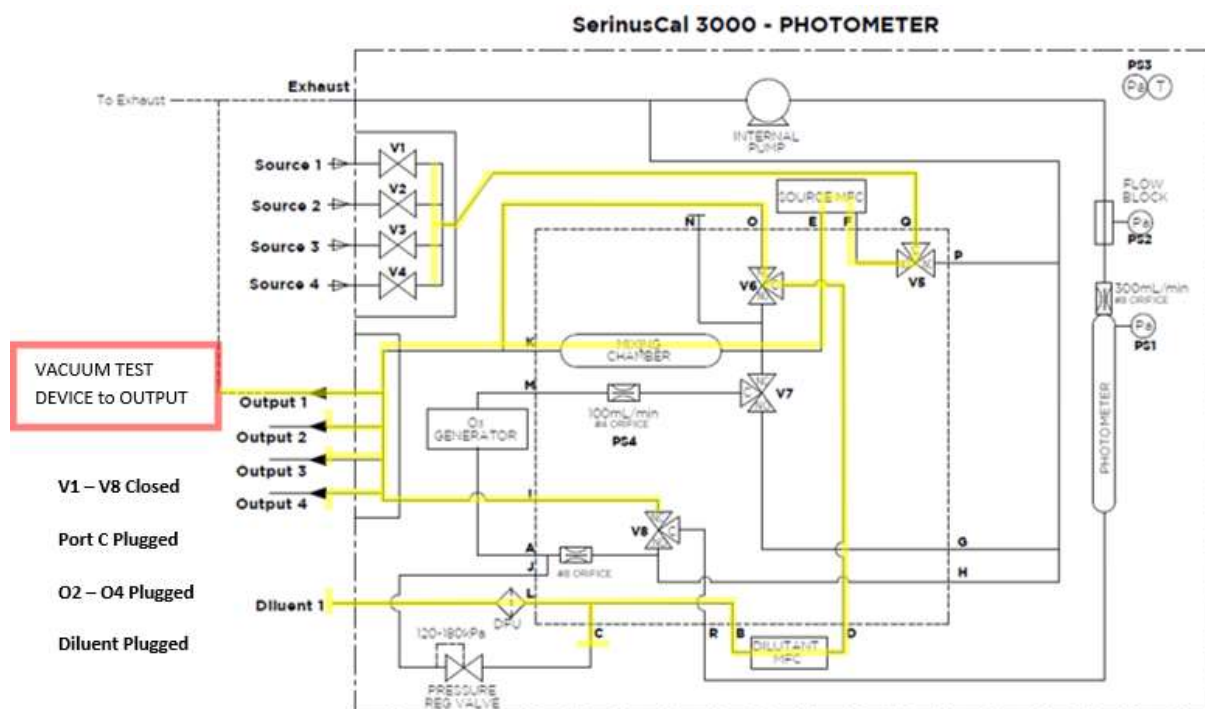

Figure 94 – Leak Check: Isolate MFC's Schematic
- **If the leak test fails** the MFC plumbing is leaking. Refer to Figure 94 and work away from the vacuum test device to further isolate and rectify leak.